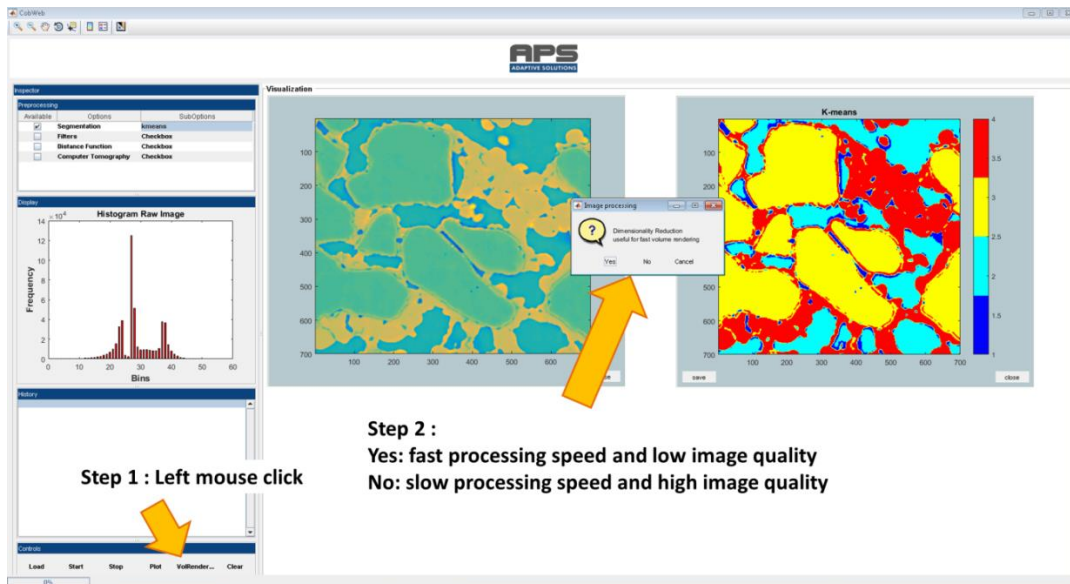

Figure 46: Volume rendering options in CobWeb 1.0
- Step 1 (Figure 46): **Click on the VolRendering button on the control panel.**
- Step 2 (Figure 46): By choosing (clicking) the **Yes option**, the resolution of the REV stack will be reduced by a factor of 10, thereby **optimizing processing speed** and **degrading image quality**.
- Step 2 (Figure 46): By choosing (clicking) the **No option**, the REV is **rendered** in its **original resolution**. RAM capacity above 40 GB is best suited for this option.